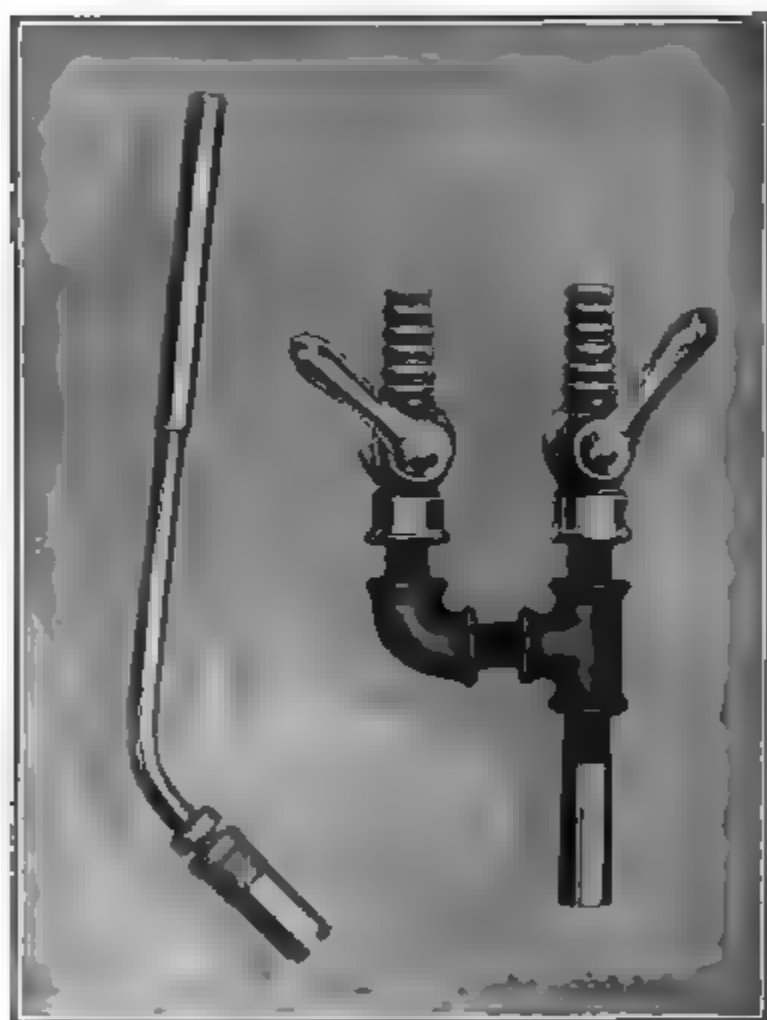

Fig. 398. Lead-Burning Outfit for Use with Illuminating Gas.
*Illuminating Gas Outfit.* Heretofore it has not been possible to do good work in lead burning with illuminating gas, but a special type of burner has recently been perfected by the Electric Storage Battery Company, which permits the use of illuminating gas with satisfactory results. The outfit consists of a special burning tip and mixing valve. Sufficient  $\frac{5}{8}$ -inch rubber hose should be provided, and the rubber should be wired firmly to the corrugated connections, Fig. 398, as the air is used at a comparatively high pressure. A supply of compressed air is necessary, the proper pressure ranging from 5 to 10 pounds, depending upon the length of hose and the size of the parts to be burned. When air from a compressor used for pumping tires is utilized for this purpose, a suitable reducing valve must be introduced